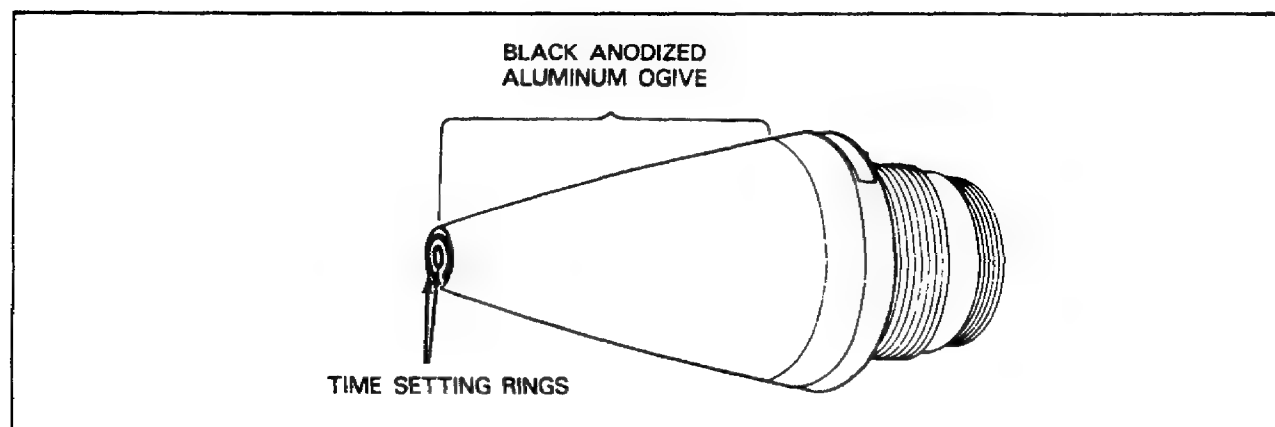

Figure 73. Electronic Time Fuze.
**Electronic Time.** The electronic time (ET) fuze (Figure 73) uses a time system similar to an electric digital watch. It can be identified by its black anodized aluminum ogive and the time setting rings in its nose end. To set the fuze time, a special electric fuze setter is placed over the nose end, contacting the rings.